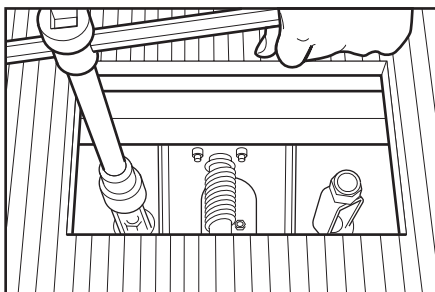

Fig. 3
3. Remove both safety locknuts in top of the tire carrier by using the tire lugwrench and handle (Fig.3).